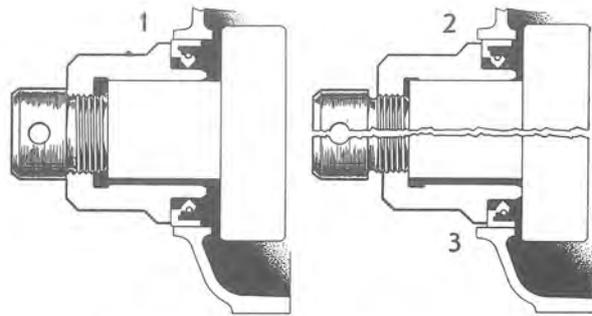

Fig. 2-32. Center spindle position on SVO 2816
The sealing ring can be fitted in three positions with tool SVO 2817, see Fig. 2-32. With a new crankshaft or a crankshaft with approved wear surface, fit the seal in its outer position (fully screwed in center bolt). With the wear mark on the crankshaft, fit the crankshaft with the center bolt screwed out a couple of turns or completely.
N.B. First inspect the wear surface of the polygon hub. The oil seal can be fitted in three positions with tool SVO 2816. With a new polygon hub, the center bolt of the tool should be screwed in fully, see Fig. 2-32. In this position, the seal will